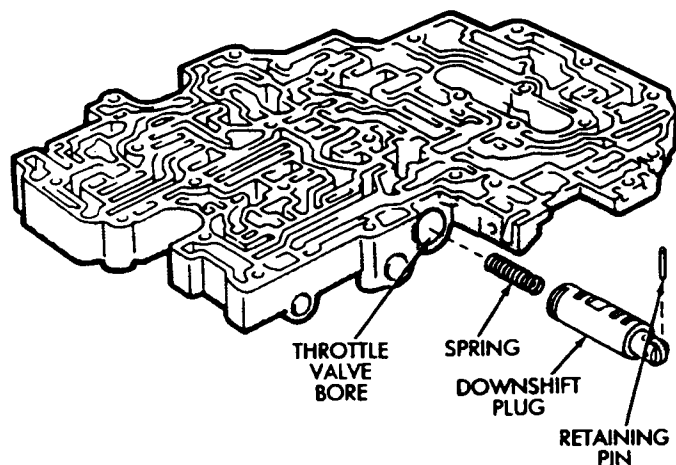

**Fig. 17 Install Throttle Valve Adjusting Rings – If Equipped**
- (12) On models with adjusting rings, turn upper body over and install adjusting rings (Fig. 17). Be sure to install same number of rings as were removed.